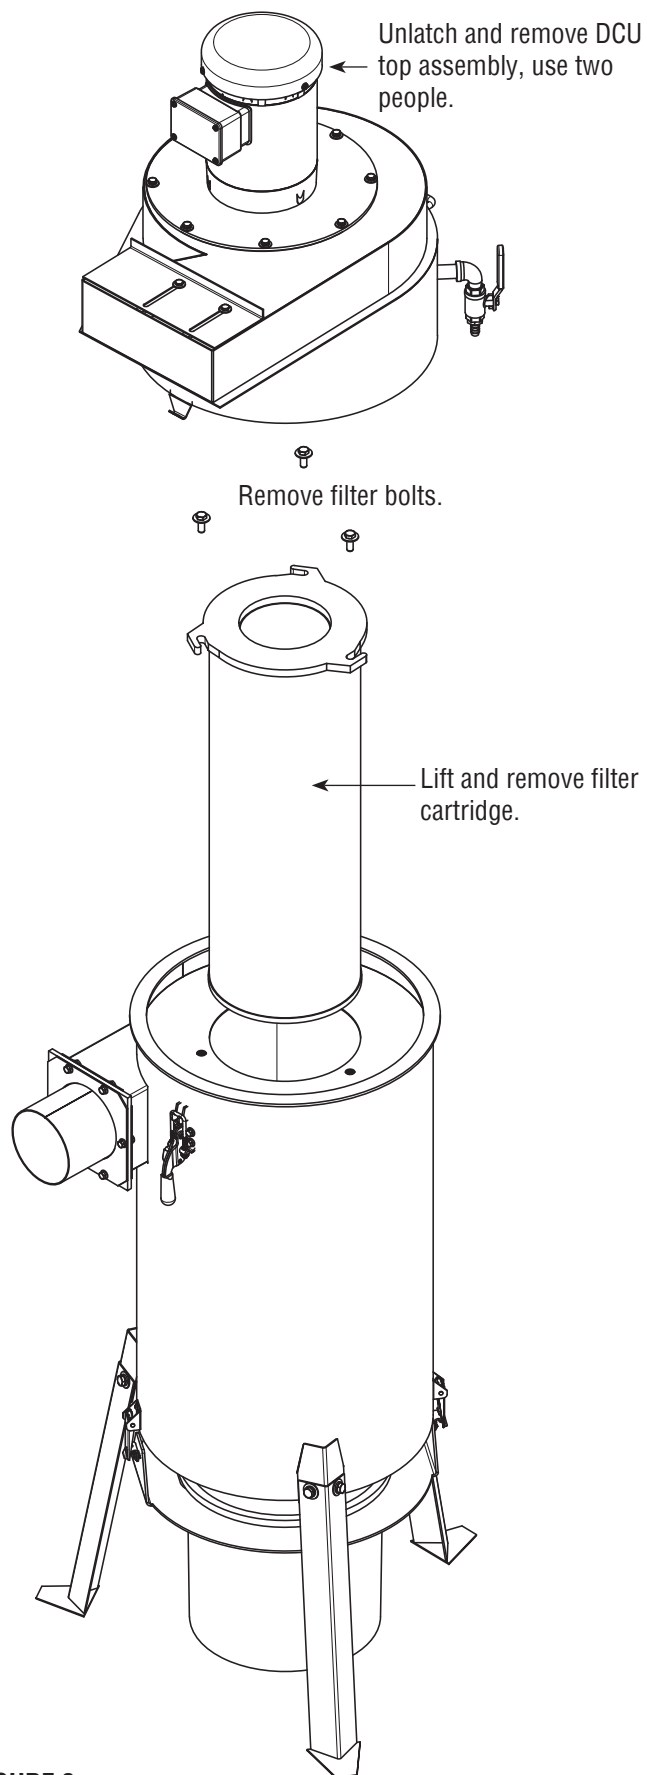

FIGURE 6
2.8 | Install/Change Filter Cartridge — Figure 6
2.8.1 | Unlatch the DCU Top Assembly from the DCU Body using the latches shown in **Figure 6**.